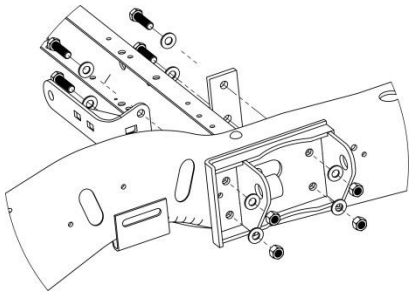

Figure 14. LH Upper Strut Mount Installation
1. Locate the Left Hand Upper Strut Mount, the Backing Plate, and the Track Rod Mount Weldment and loosely attach the components to the Drivers Side of frame, as shown in Figure 14, with the (4) 1/2-13 x 1.75 Hex Flange Bolts and (4) 1/2-13 Locking Flange Nuts.